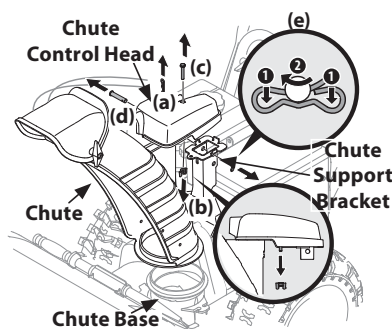

Figure 2-40
1. Remove cotter pin (a), wing nut (b) and hex screw (c) from chute control head. Remove clevis pin (d) and bow-tie cotter pin (e) from chute support bracket. See Figure 2-40.